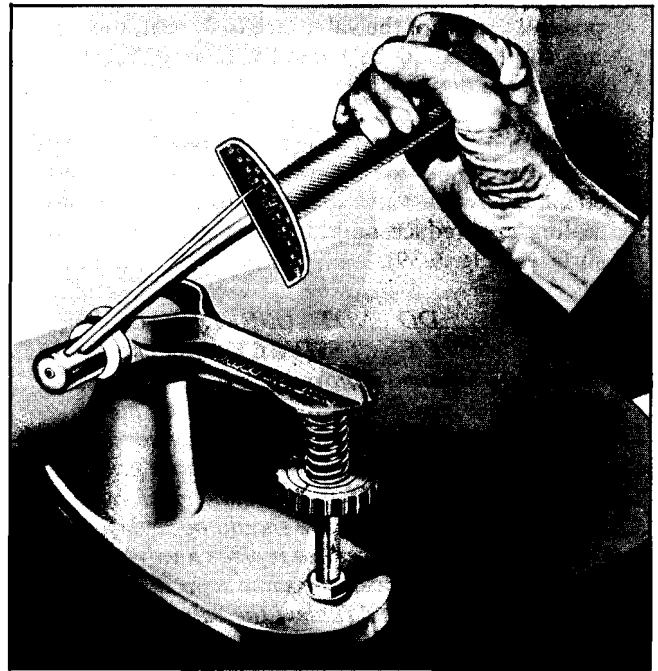

Fig. 6-38 Checking Valve Spring Tension
10. Check valve spring tension with suitable tester (Fig. 6-38).